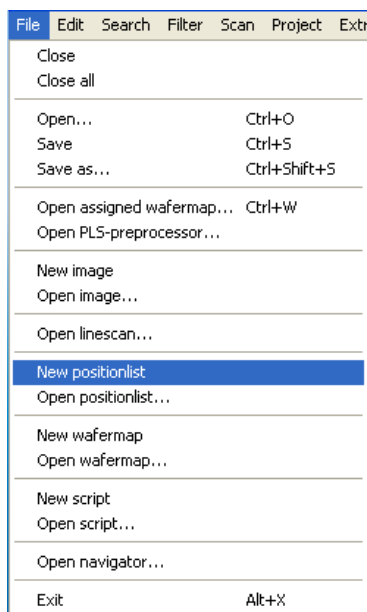

Figure 19: File menu of the Raith e-Line software.
- In order for the beam deflection to be accurate enough for lithography applications (i.e. so that the pattern you write actually has the intended dimensions), the beam deflection needs to be calibrated. This is achieved with the align-write-field procedures, which use the interferometric stage as a reference (1.5 nm position accuracy). First open a new positionlist using the file menu (see Figure 19).